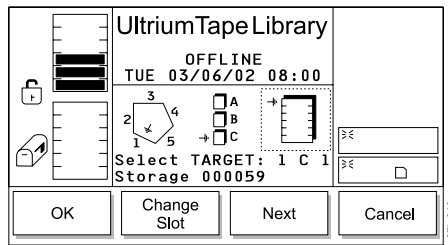

Figure 148. Change Slot Dialog
- b. Press the button below the **Change Magazine** softkey until the arrow in the middle icon points to the magazine that you want. Press the **Next** softkey. The Change Slot Dialog displays (see Figure 148).